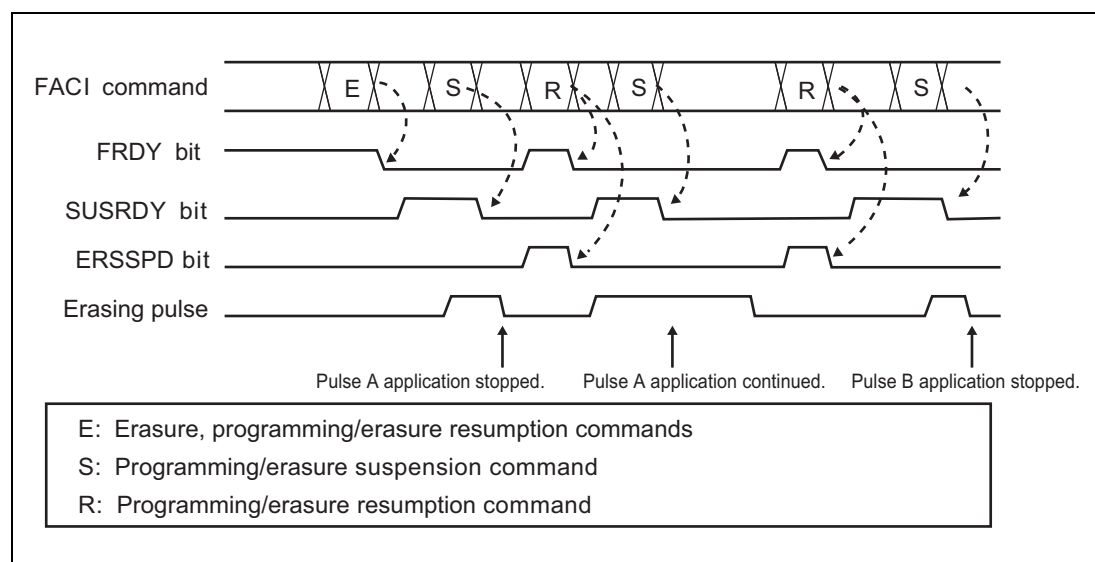

**Figure 6.17 Suspend Programming Command**
If a programming/erasure suspension command is issued while the flash memory is being programmed, the flash sequencer suspends programming. **Figure 6.17** show the suspending operation. Once sequencer enters a state where it is ready to accept the programming/erasure suspension command after the start of programming, SUSRDY bit is set to 1. If the programming/erasure suspension command is issued, the flash sequencer accepts the command and clears SUSRDY bit. If the flash sequencer accepts the command while applying a programming pulse, the flash sequencer continues applying the pulse. After a specified pulse application time has elapsed, the flash sequencer completes applying the pulse, resumes suspended programming, and sets the FSTAT.PRGSPPD bit to 1.
**Figure 6.17** gives an overview of operation for suspending programming command processing. Upon accepting programming command, sequencer clears FRDY bit to 0 and starts programming.